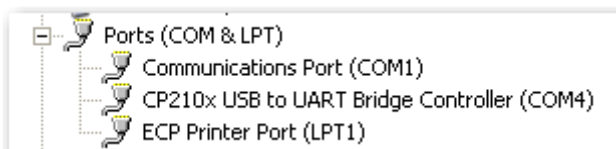

Figure 2-4 • Determining the USB Serial Port's COM Port
- Determine the COM port assigned to the USB interface. Open the Windows Control Panel and double-click the **System** icon. Click the **Hardware** tab and click the **Device Manager** button. Expand the **Ports (Com & LPT)** item in the Device Manager. Look for the CP2102 USB to UART Bridge Controller in the list of ports. The COM port in parentheses identifies the COM port assigned to this device (Figure 2-4). If you do not see CP2102, you need to install the driver from the CP210x_Drivers.zip archive. Refer to "Installing the M1AFS-ADV-DEV-KIT Board USB Serial Driver" section on page C-31 for more information.